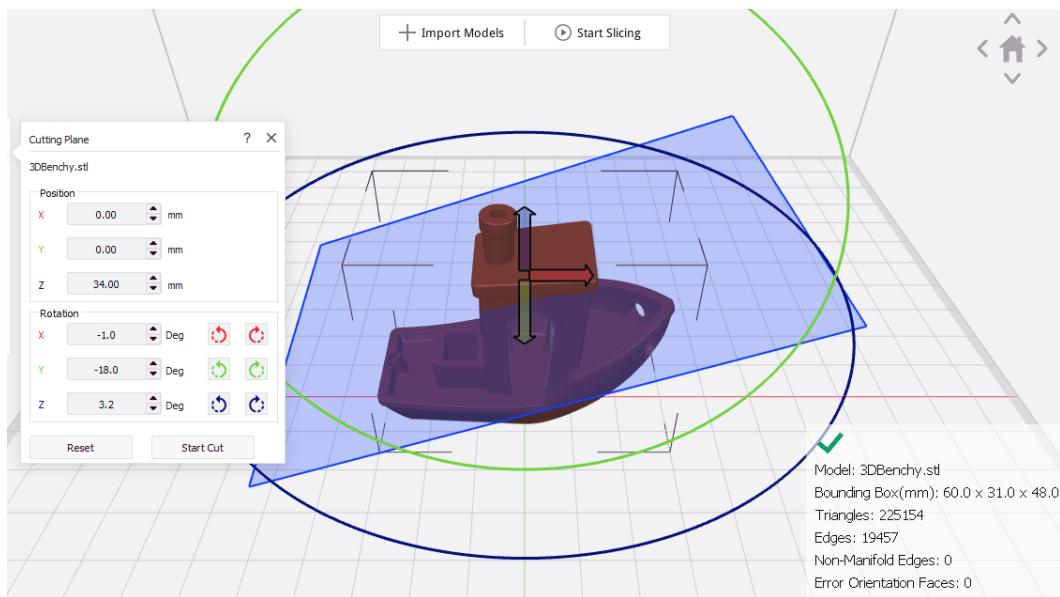

Figure 2.8 – Using the Free Cut tool in ideaMaker
3. Observe that we can move the cutting plane (blue rectangle) around the model using the orbit circles or by typing in values into the **Cutting Plane** dialog box (*Figure 2.8*). The **Start Cut** button cuts the model along the cutting plane.